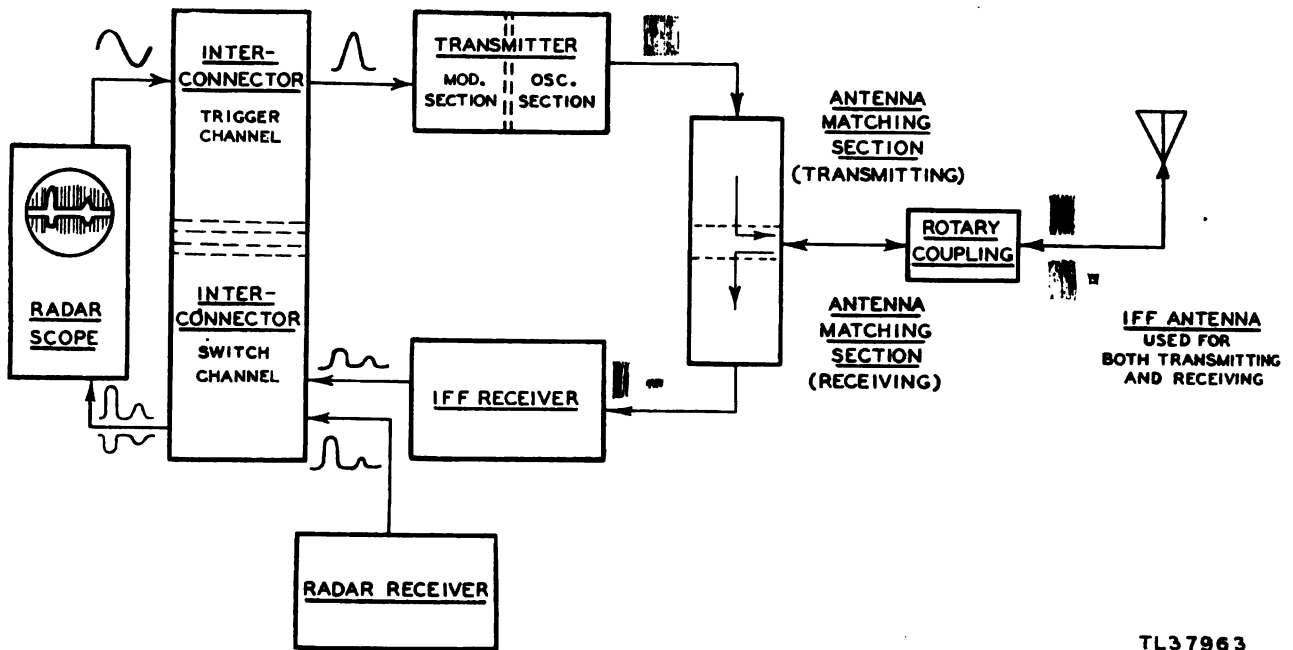

Figure 1. RC-150, components.
*a. GENERAL.* The RC-150 is a typical example of the Mark III IFF interrogator-responder equipment. In the next few paragraphs a general description of the components will be given and the part each one plays in the identification system (fig. 1).